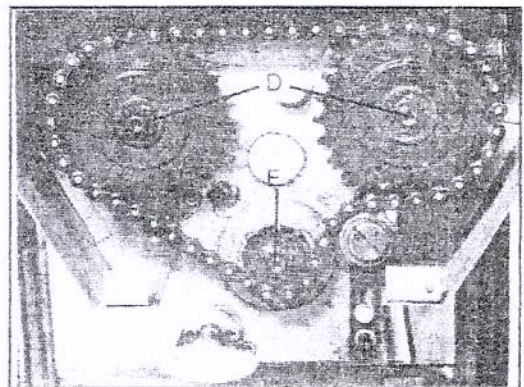

Fig. 10
When the feed rolls are engaged, they turn and feed the stock. The feed rolls slow automatically when the machine is under heavy load for best planing under all conditions. The feed rolls are driven by a chain and sprocket drive (D) Fig. 10, which takes power directly from the cutter head through the oil bath gear box (E).